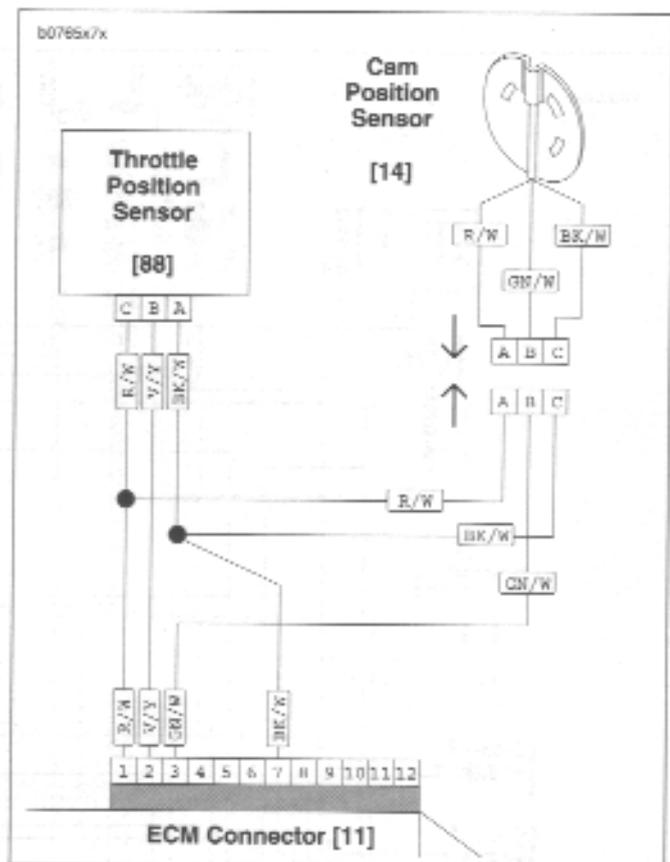

Figure 4-70. Connecting Sensor Wires
2. Install trigger rotor (17).
- a. Apply **LOCTITE THREADLOCKER 243** (blue) to threads of bolt (18).
- b. Position trigger rotor (17) onto end of camshaft aligning notch with camshaft slot.
3. Install cam position sensor (19) and timer plate studs (4). Rotate cam position sensor to its previously marked position to obtain approximate ignition timing.
5. See Figure 4-70. Install sensor wiring terminals into correct positions in plug end of connector [14]. R/W, GN/W and BK/W wires of plug end (from cam position sensor) must match same color wires in receptacle end of connector (from ignition module wiring harness). Install pin terminals. See **B.2 DEUTSCH ELECTRICAL CONNECTORS** under **B.1 AMP MULTILOCK ELECTRICAL CONNECTORS**.